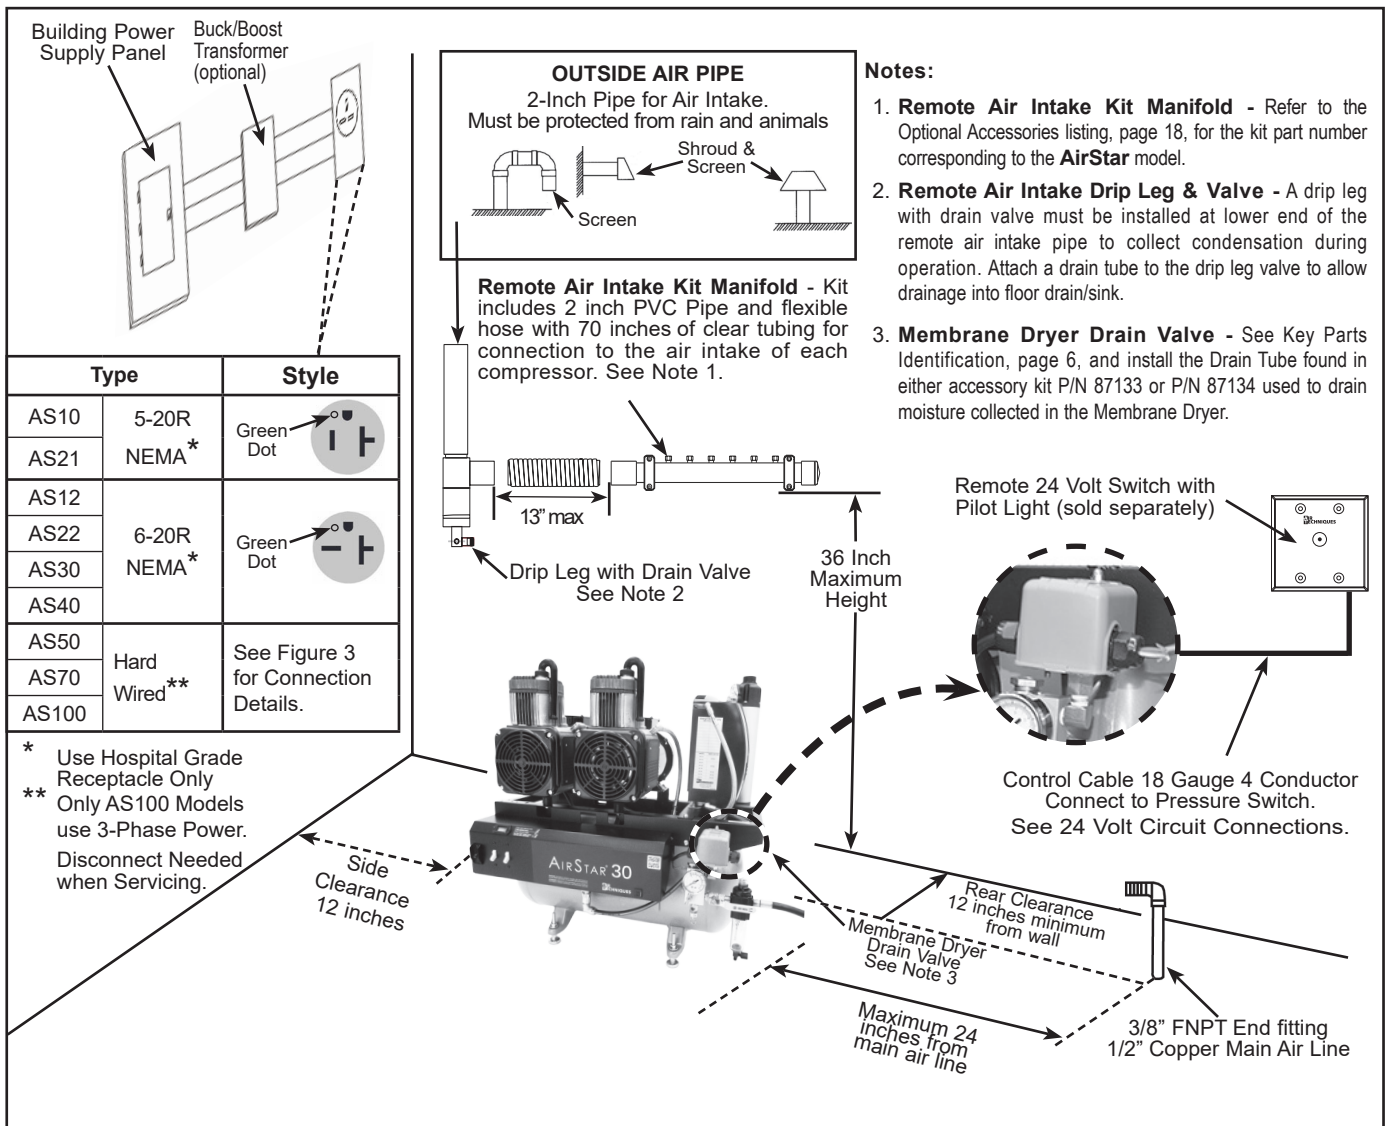

Figure 2. Overall Site Requirements
- **EQUIPMENT GROUNDING:** All **AIRSTARs** must be connected to a grounded metal, permanent wiring system, or an equipment grounding conductor must be run with the circuit conductors and connected to the equipment grounding lead in the **AIRSTAR's** flexible metal conduit power supply. Failure to do so can result in fire, electric shock, injury, or death. See Figure 2, Overall Site Requirements, page 9.
- **ELECTRICAL POWER CONNECTION:** AS10, AS12, AS21, AS22, AS30 and AS40 systems are supplied with a connected line cord. AS50, AS70 and AS100 systems are shipped with open electrical connections. Systems supplied with a line cord must be plugged into a hospital grade electrical outlet. See Figure 2 for receptacle requirements. Systems with open electrical connections are directly connected to the branch supply circuit as shown by Figure 3. See Site Electrical Requirements, page 9, for required branch circuit size for each system.